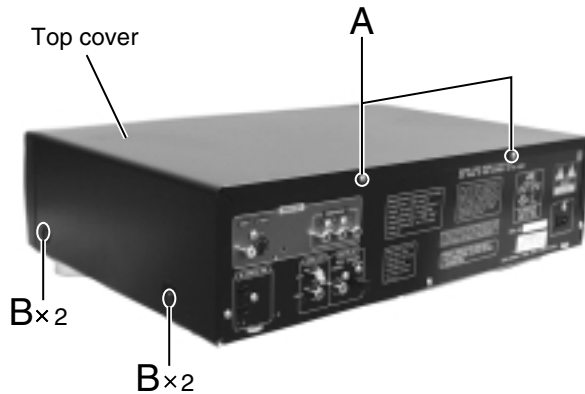

Fig.1
■ Removing the Top cover (See Fig.1)